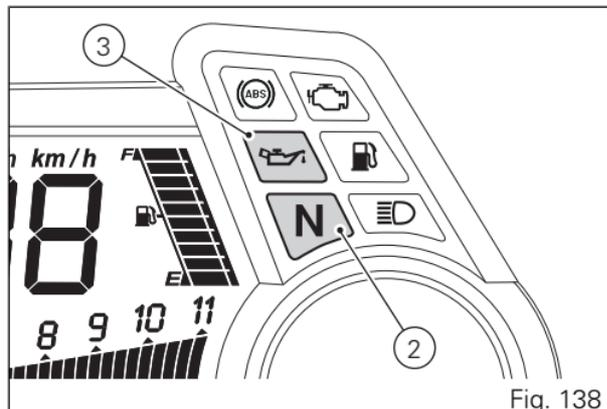
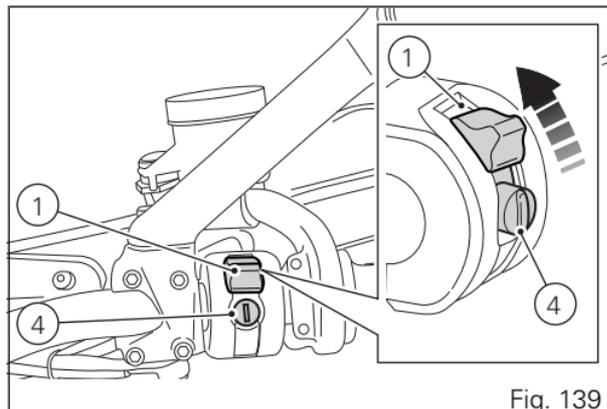

Fig. 138
Fig. 139
The red oil pressure warning light (3Fig. 138) should go out a few seconds after the engine has started. The engine will shut off by turning the red key (1Fig. 139) on the handlebar to RUN OFF. To turn on the “Hands free” system and all electronic onboard systems, refer to page 154 “Hands Free System”.